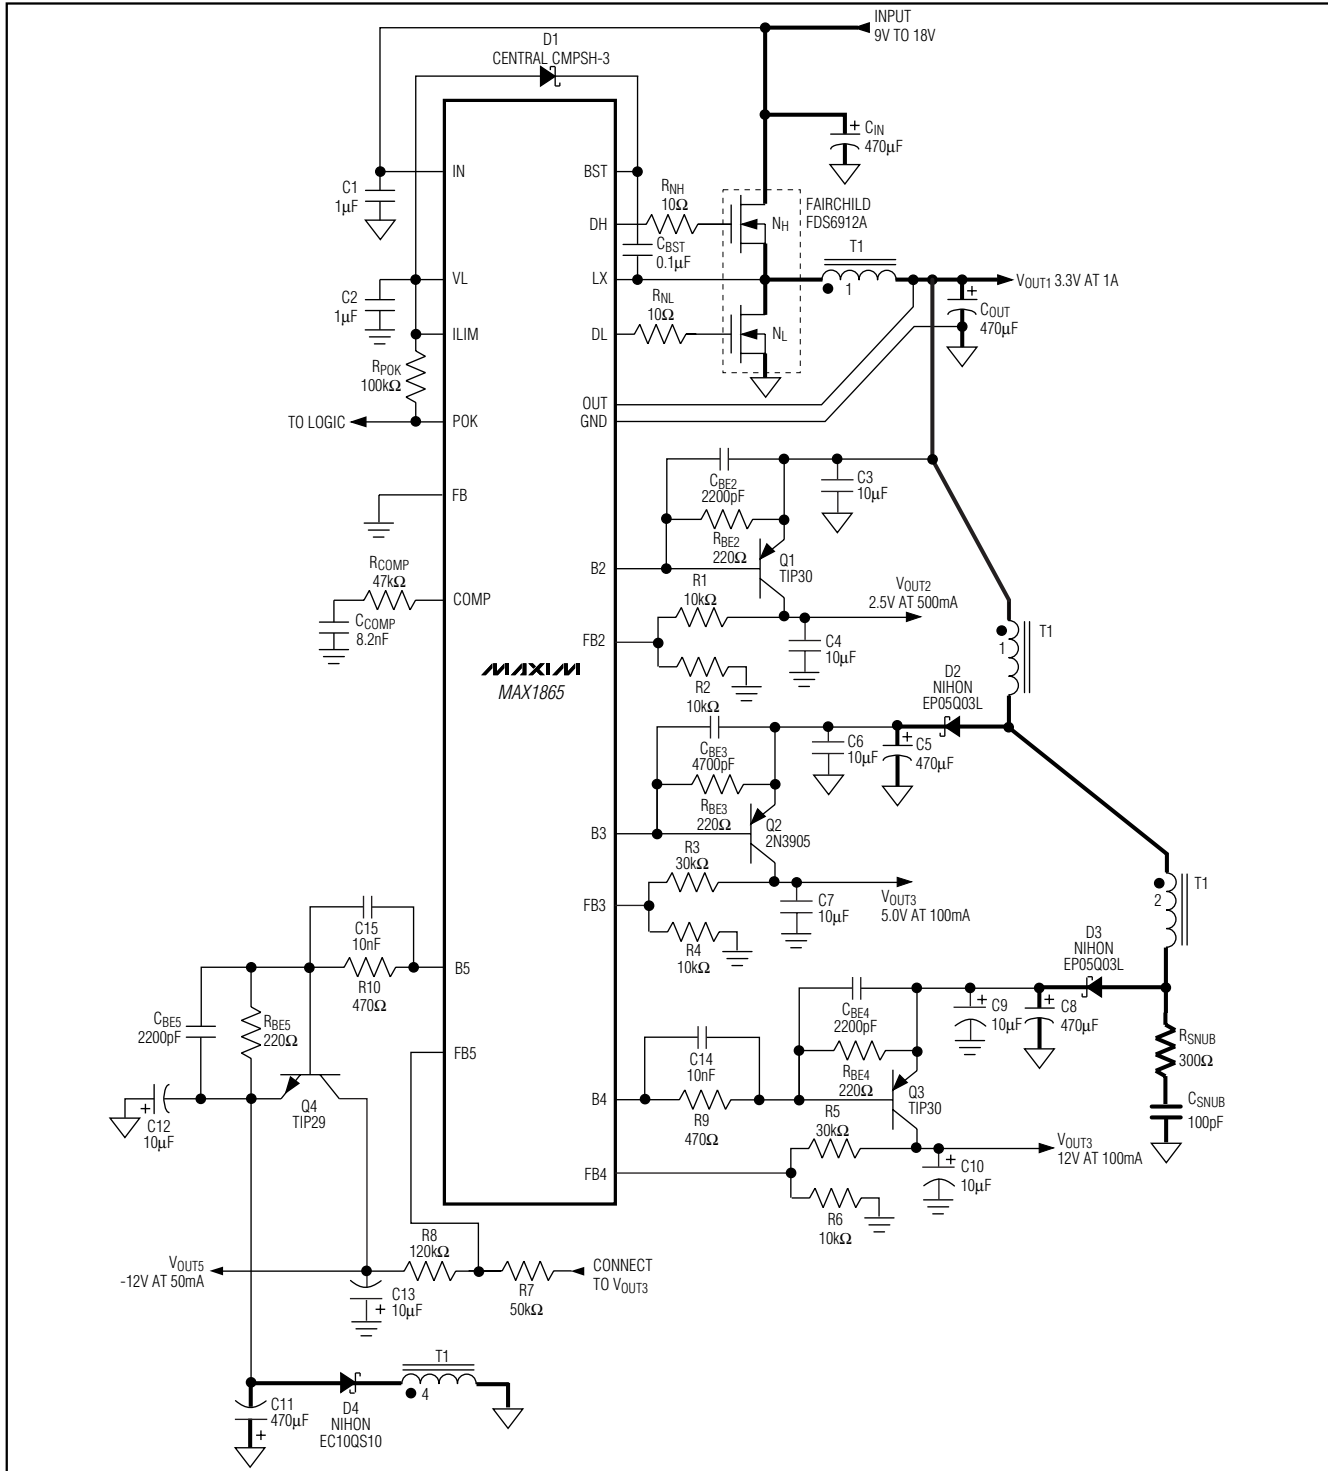

Figure 6. Standard MAX1865 Application Circuit
The MAX1864/MAX1865's positive linear regulator output voltages are set by connecting a voltage-divider from the output to FB₋ to GND (Figure 6). Select R4 in the 5k Ω to 50k Ω range. Calculate R3 with the following equation:
The MAX1865's negative output voltage is set by connecting a voltage-divider from the output to FB5 to a positive voltage reference (Figure 6). Select R6 in the 5k Ω to 50k Ω range. Calculate R5 with the following equation:
In systems where the step-down controller's output is not the highest voltage, a transformer may be used to provide additional postregulated, high-voltage outputs. The transformer generates unregulated, high-voltage supplies that power the positive and negative linear regulators. These unregulated supply voltages must be high enough to keep the pass transistors from saturating. For positive output voltages, connect the transformer as shown in figure 6 where the minimum turns ratio (N) is determined by:
only), connect the transformer as shown in Figure 6, where the minimum turns ratio is determined by:
The MAX1864/MAX1865 use a current-mode control scheme that senses the current across the high-side MOSFET (NH). Immediately after the high-side MOSFET has turned on, the MAX1864/MAX1865 use a 60ns current-sense blanking period to minimize noise sensitivity. When the MOSFET turns on, however, the transformer's secondary inductance and the diode's parasitic capacitance form a resonant circuit that causes ringing. Reflected back through the transformer to the primary side, these oscillations across the high-side MOSFET may last longer than the blanking period. A series RC snubber circuit at the diode (Figure 6) increases the damping factor, allowing the ringing to settle quickly. Applications with multiple transformer windings require only one snubber circuit on the highest output voltage. Applications with low turn ratios (1:1), such as the MAX1864 typical application circuit (Figure 1), may not require a snubber circuit.
For the EC10QS10 Nihon diode used in figure 6, the capacitance is roughly 15pF. The output snubber must only dampen the ringing, so the initial turn-on spike that occurs during the blanking period remains preset. A 100pF capacitor works well in most applications; larger capacitance values require more charge, thereby increasing the power dissipation.
The snubber's time constant (t_{SNUB}) must be smaller than the 100ns blanking time. A typical RC time constant of approximately 30ns was chosen for Figure 6: